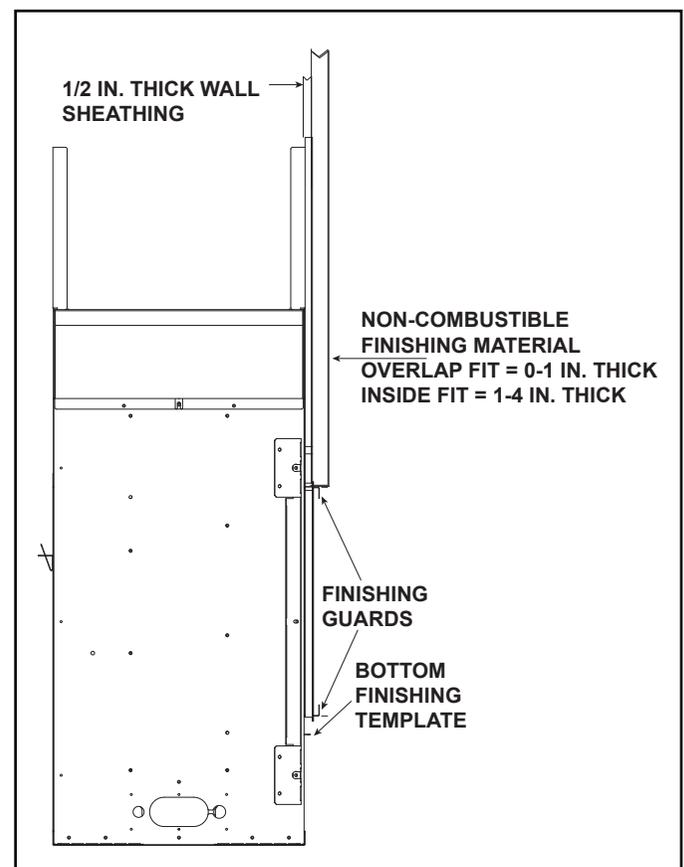
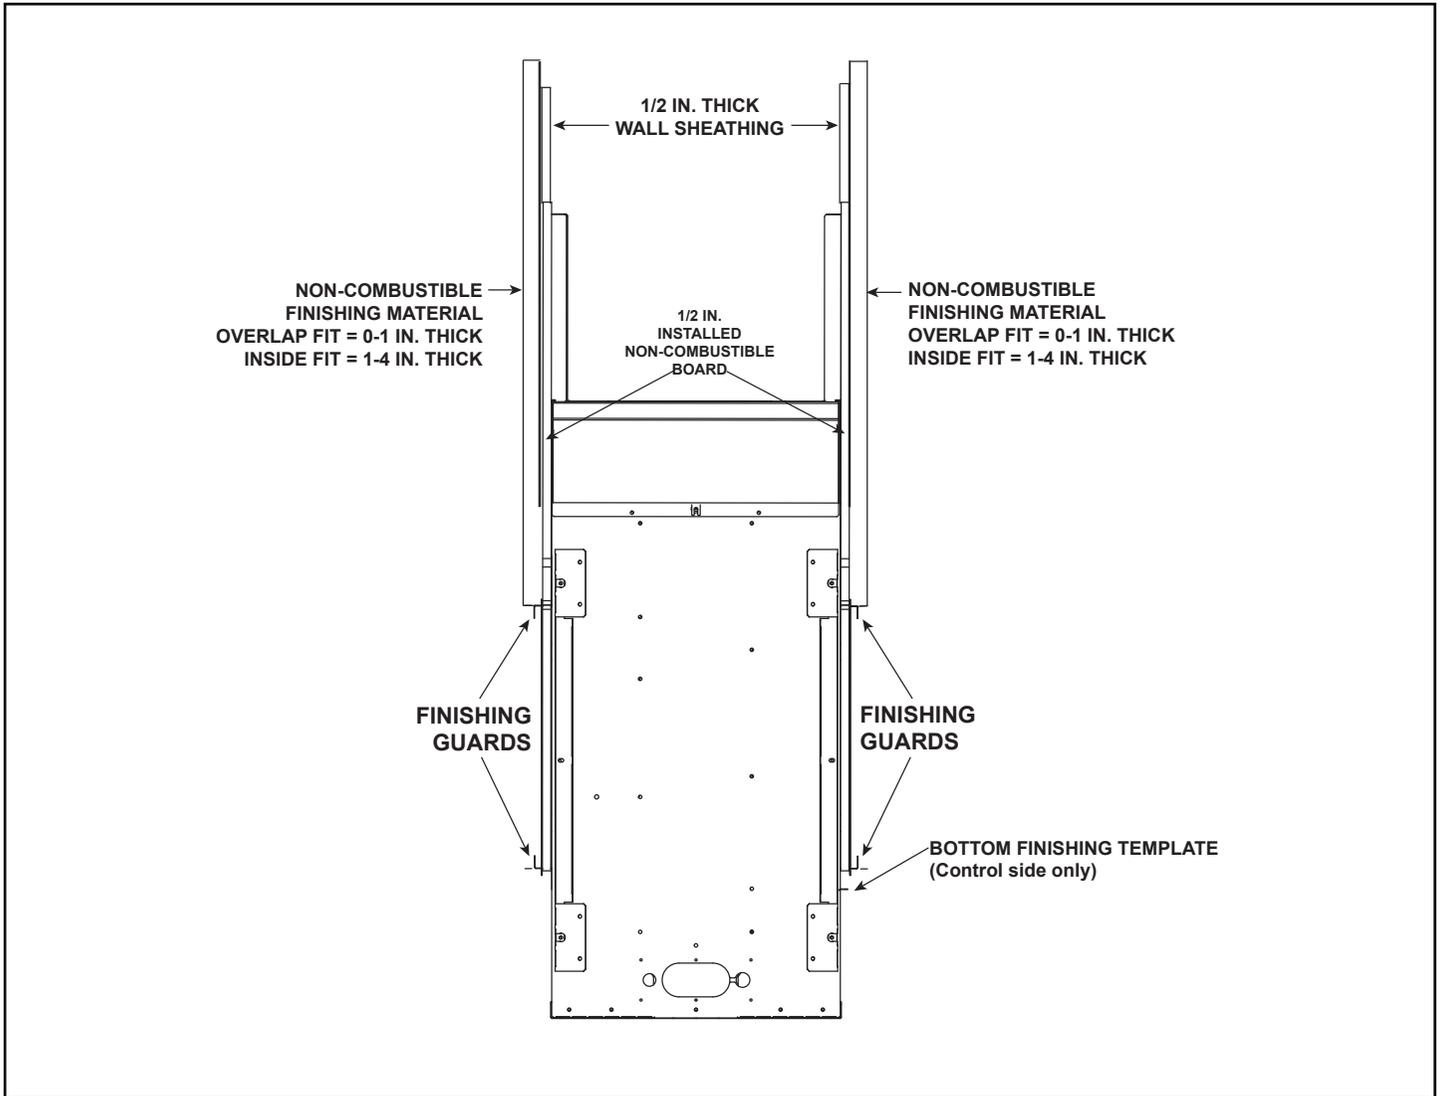

Figure 10.2 Finishing and Facing Materials - Single-Sided Models
Figure 10.3 Finishing Materials - See-Through Models
Decorative facing material thickness is measured from the face of the installed non-combustible board. See Figure 10.2 and Figure 10.3.
The fronts for this appliance are compatible with non-combustible materials. See Figure 10.2 and Figure 10.3.
Installation of finishing materials can be accomplished by either the “overlap” or “inside-fit” method, depending on what type of decorative barrier front is to be installed. See Figure 10.2 and 10.3. Overlap fit decorative barrier fronts include the Quattro and Loft Forge. The Clean Face Trim Front (CFT) can be either an inside fit or an overlap fit. See Table 1.
1. Remove bottom finishing template from bottom access panel. Verify that factory-installed finishing guards are installed to ensure finishing material does not extend into the fireplace opening. See Figure 10.2 and 10.3.
1. Remove bottom finishing template from bottom access panel. Verify that factory-installed finishing guards are installed to ensure finishing material does not extend into the fireplace opening. See Figures 10.2 and 10.3.